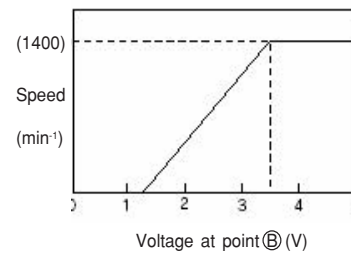

Fig. 7-3
- The pulse is converted into the analog voltage by the R751 and C751 and applied to the fan motor as the speed command voltage. Fig. 7-3 shows the relation between the voltage at the point B and the speed. (Some differences will occur due to the condition of the unit.)
- The fan motor outputs the feedback pulse of the speed, which is input into the pin (14) on the micro computer. This pulse is equivalent to a frequency of  $12/60$  speed. (Example:  $1000 \text{ min}^{-1} \times 12/60 = 200 \text{ Hz}$ )